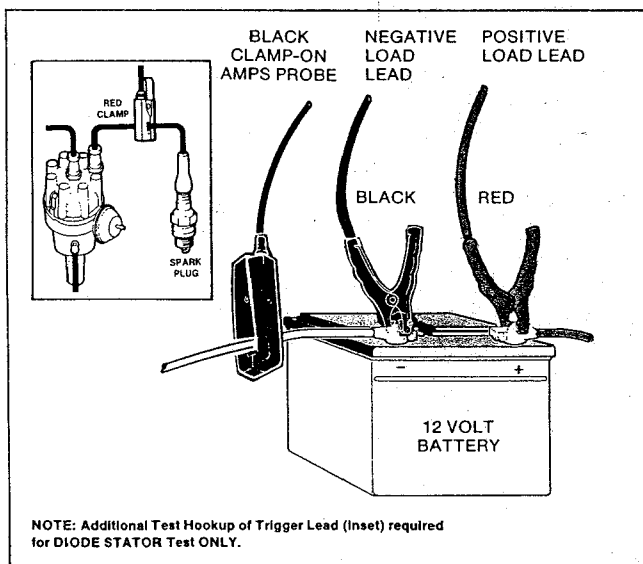

FIGURE 4. Test lead connections for testing the starting system, charging system, voltage regulator, and diode stator.
This test should be made only with a serviceable battery. See Figure 4 below for hookup illustration.
3. Connect leads to proper battery terminals and AMP PROBE to proper lead. See Figure 4.
See Figure 4 (page 7) for hookup illustration.
2. Connect leads to proper battery terminals and AMP PROBE to proper lead. See Figure 4 page 7 for hookup illustration. Be sure to connect trigger lead as designated in Figure 4.